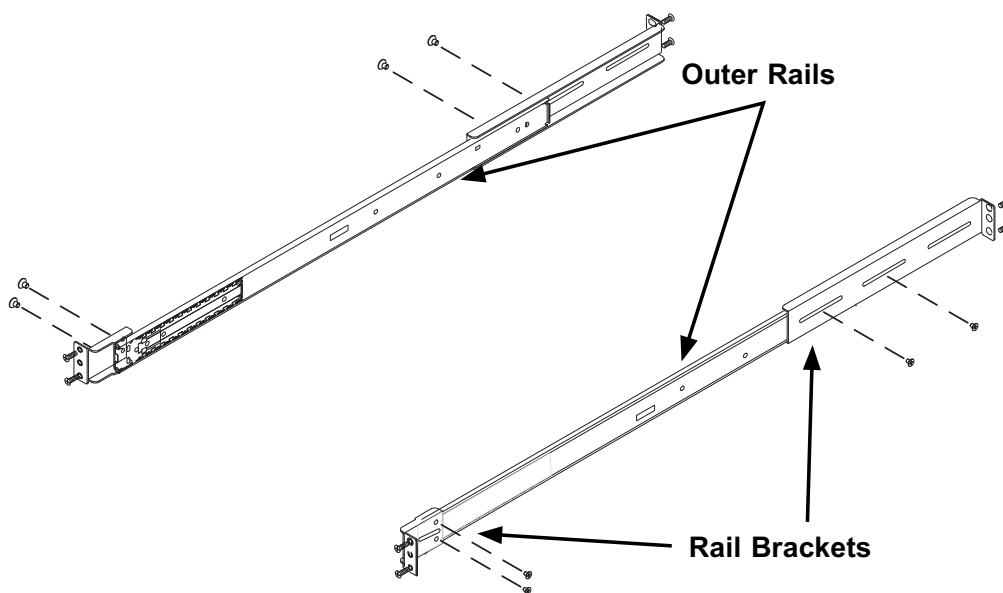

Figure 5-3. Rack Brackets
1. Confirm that the chassis includes the inner rails (A) and that the outer rails (B) are installed on the rack (See Figure 5-3)
2. Align the chassis rails (A) with the front of the rack rails (C).
10. Line the inner chassis rails (A) with the front of the outer rails (C) (see Figure 5-3).